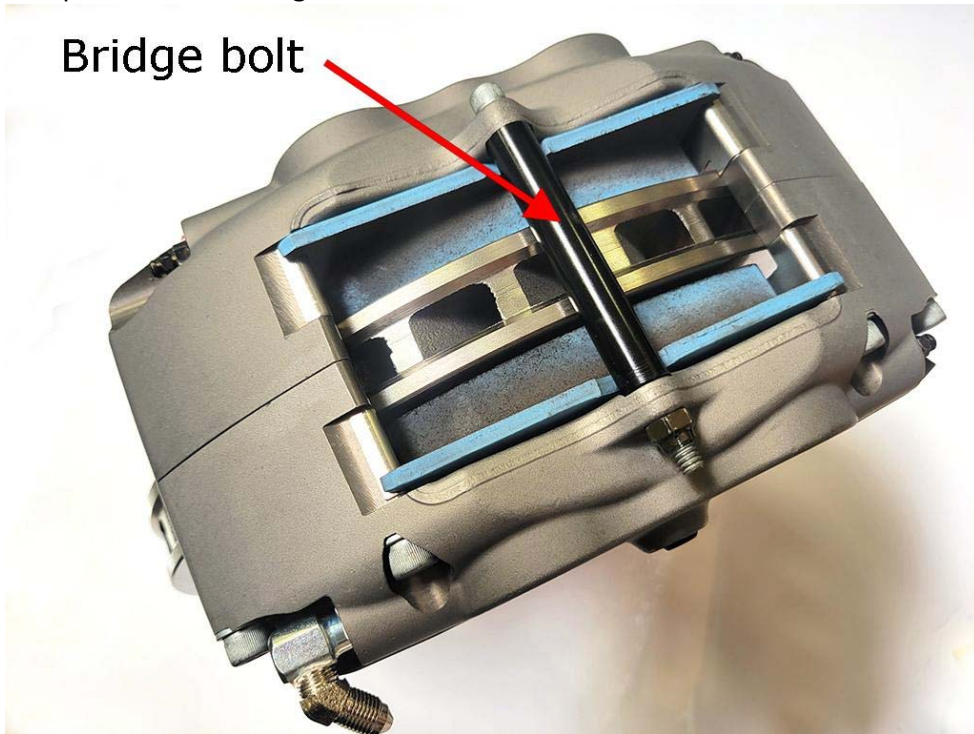

Fig 7
12. Install pads as shown in Fig 7